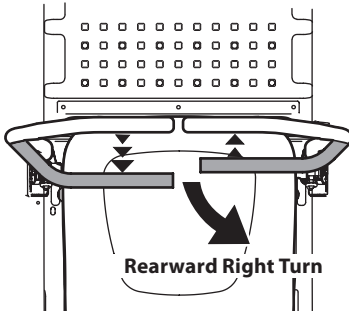

Figure 27
2. To turn clockwise, move the left lapbar drive control lever forward while simultaneously moving the right lapbar drive control lever rearward (Figure 27).